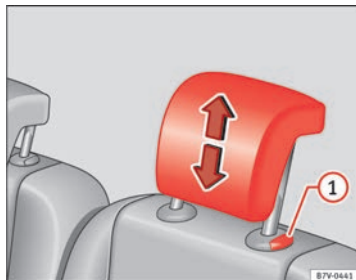

Fig. 87 Fitting the head restraints in the second or third row of seats.
- Pull out the head restraint ⇒ fig. 87 ① with the button pressed.